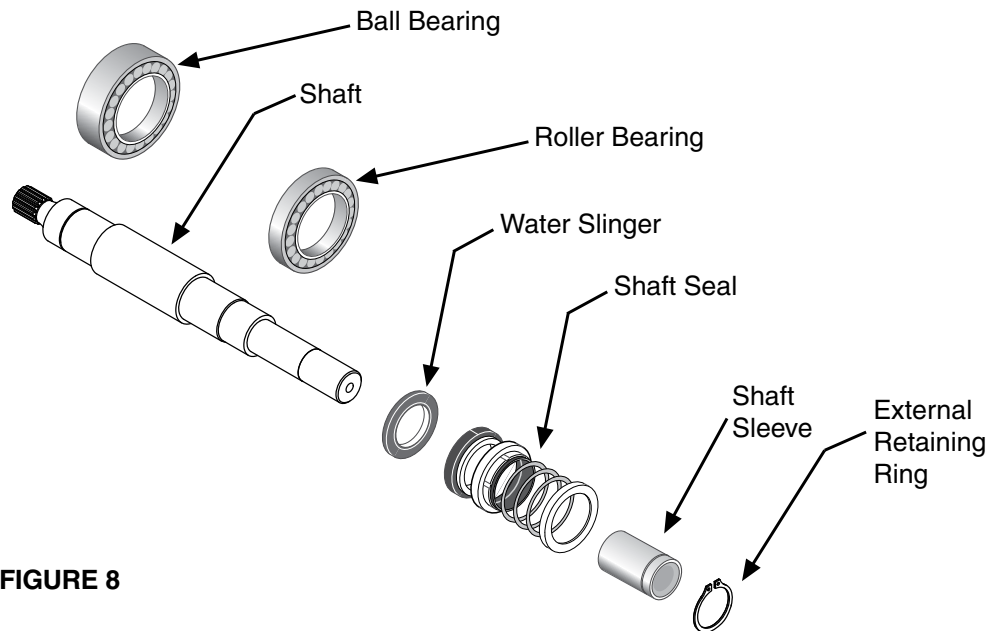

FIGURE 8
- Coat the bearing bores of bracket and the inboard grease seal with oil. Orient shaft assembly in the direction shown in **FIGURE 8**. Slide shaft and bearing assembly into bearing bracket. **Do not force together!** Slide shaft until the first bearing makes contact with the bracket. Carefully align bearing with the bearing bore and press or tap bearing assembly into place. **Do not use excessive force!**